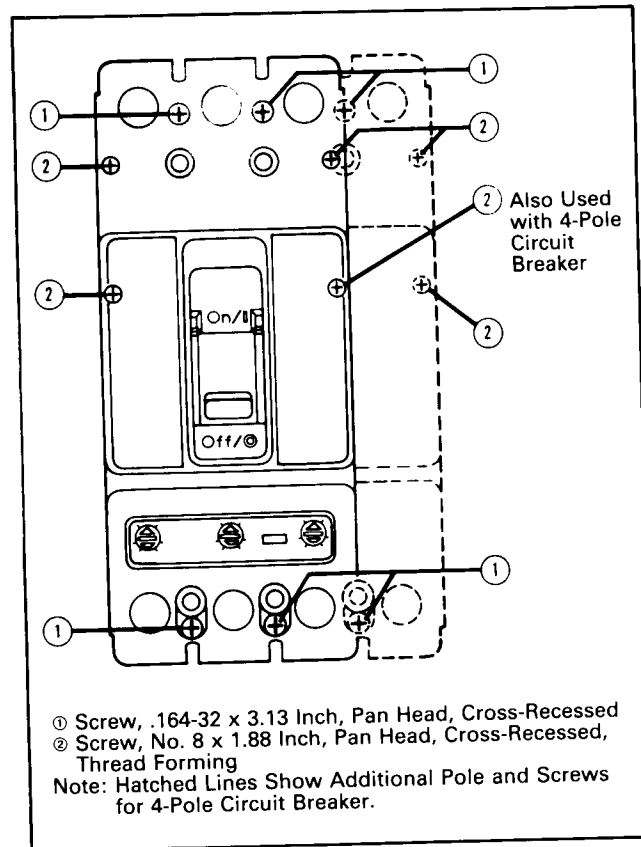

Fig. 2-7. Cover Screw Installation Positions
- 2-13. With circuit breaker handle in TRIPPED position and accessory pigtail leads (if used) routed as required, install circuit breaker cover. Secure with pan-head screws, followed by thread-forming screws as shown in Fig. 2-7.